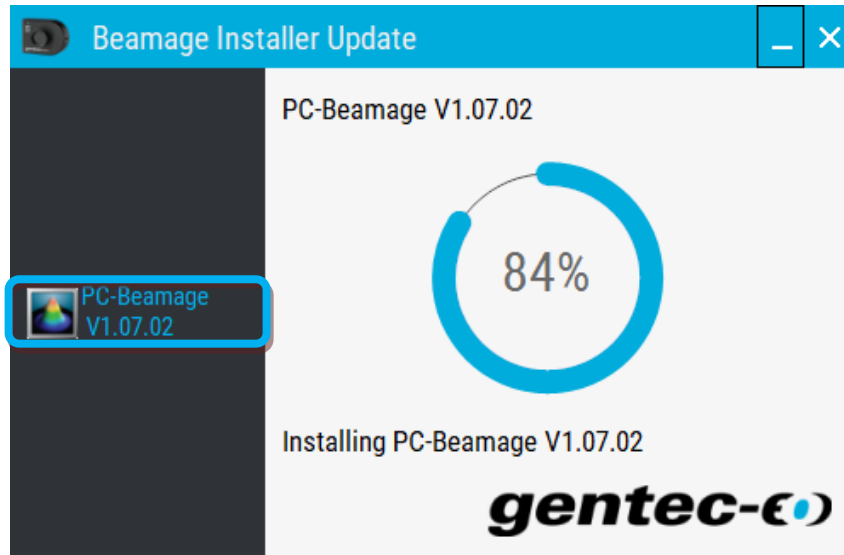

Figure F-3 PC-Beamage Install Button
- 4) Click on the "PC-Beamage VX.XX.XX" button to install the new version, see Figure F-3